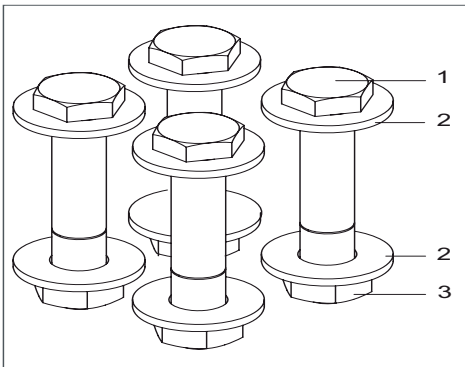
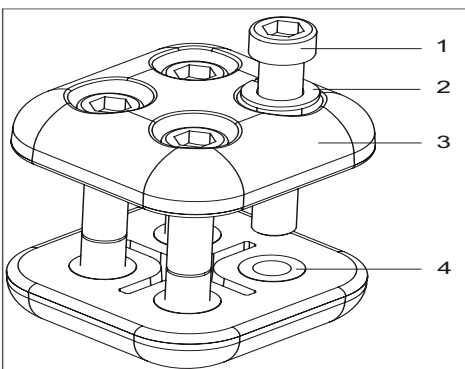

Fig. 5.15
Fig. 5.16
- Screw-fasten busbars to the feeder bars as shown in Fig. 5.14 using four bolts (PIX 12, Fig. 5.15) or four bolts and an electrode (PIX 17/24, Fig. 5.16). Observe location of busbars and feeder bars (Chap. 5.8.1).
1 In busbar end panels, the phases L1 and L3 must be screw-fastened to electrodes in accordance with PIX 24 (Fig. 5.16)
2 In the bus section coupler, all phases L1/L2/L3 in the lower busbar must be screwfastened to electrodes in accordance with PIX 24 (Fig. 5.16)